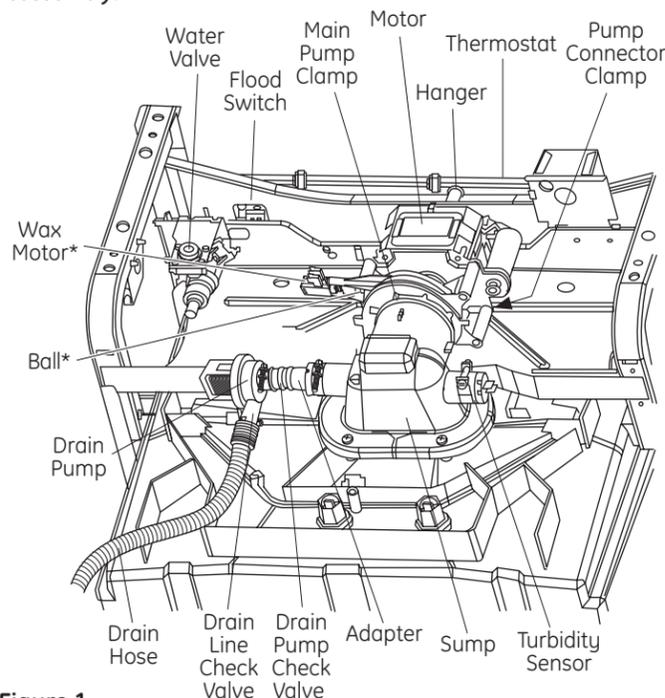
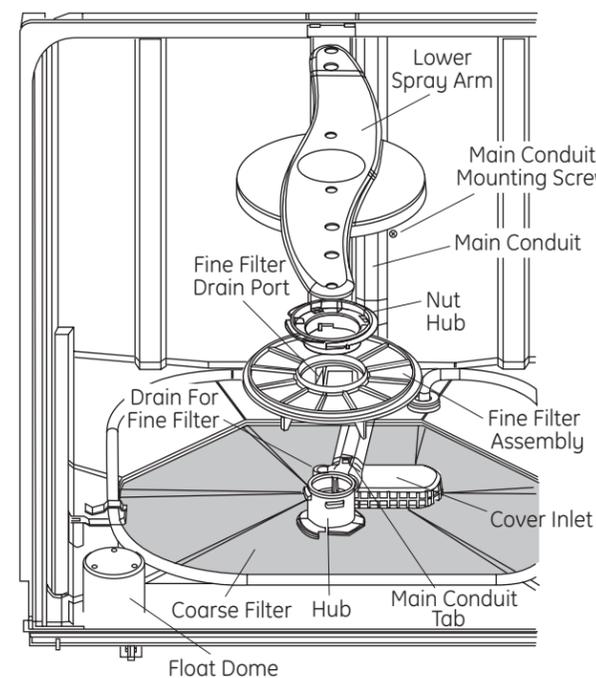

Figure 1
Figure 3
2. Check cover inlet (Figure 3) in the bottom of the tub. Make sure that it is clear of food particles.
5. Remove lower spray arm (Figure 3).
6. Remove main conduit mounting screw (Figure 3).
7. Lift main conduit tab, pull and rotate main conduit out of hub (Figure 3).
8. Remove the cover inlet; check sump and drain outlet (Figure 3). It may be blocked by a toothpick or other object.
9. Check drain pump valve (Figure 1) for correct operation. Water should flow only from the pump to the drain hose.
10. Drain line check valve (Figure 1) must pass water in the drain line direction only.
2. On inside of dishwasher, remove the cover inlet (Figure 3) and reach down into the sump (Figure 1). Check for blockages such as bone, wire ties, etc. If it contains debris, clean thoroughly. If motor shaft cannot be turned, remove mechanism.
1. Remove cover inlet (Figure 3). With syringe, remove all water from sump (Figure 3).
2. Loosen main pump clamp and pump connector clamp (Figure 1).
3. Remove hanger that holds motor to tub frame (Figure 1).
To Remove Lower Arm and Fine Filter Assembly (Figure 3):